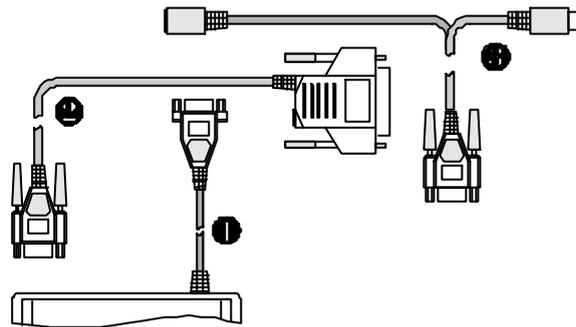

Fig.1. Cables: ❶ - Master, ❷ - RS232, ❸ - K.B.W.
- One TMR900 Touch Memory Button Reader (comes with Master cable❶, see Fig.1)
- WAS-1289 Keyboard Wedge Emulation (K.B.W.) interface cable❷
- WAS-1288 RS232 interface cable❸